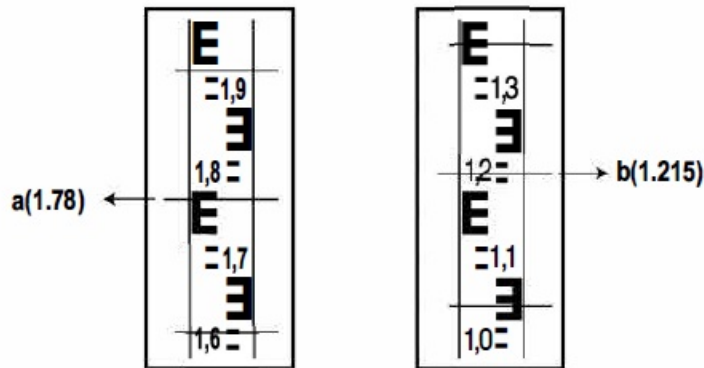

Figure 4
- Focus the optical level on the center of the rod B. Record the height value of the leveling rod at the center of the crosshairs (Fig. 4).